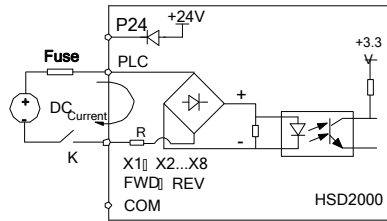

Figure 4-16: External 24V Power Supply Wire Connection
- 2) External power supply wiring (power supply shall meet UL CLASS 2 standard, 4A fuse is required to install between power supply and interface) is shown as figure 4-16 (wiring between